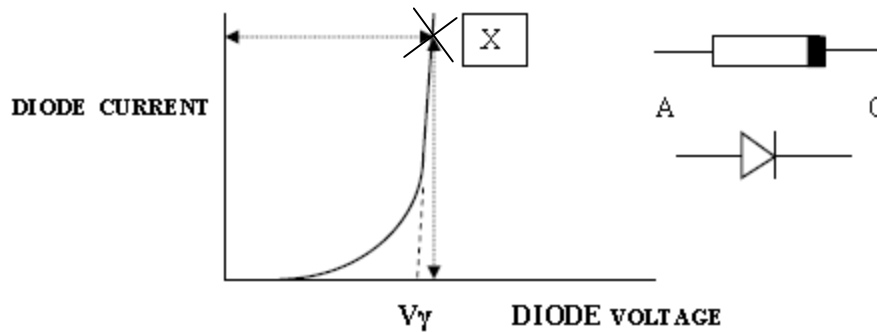
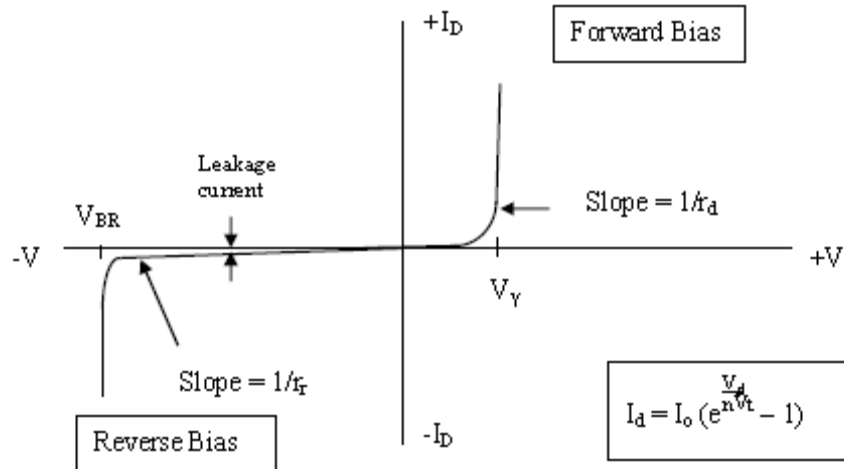

Figure 1.3: Diode forward I-V characteristic showing the definition of  $V_\gamma$
Figure 1.4: Forward and reverse diode I-V characteristics
A sketch of a diode characteristic, as it would be measured on a curve tracer, is shown in Figure 1.3. The curve tracer only measures the forward I-V or the reverse I-V characteristic in any one sweep. The characteristics shown in Figure 1.4 are the combination of the forward and reverse characteristics. Appreciable conduction occurs from around 0.4V to 0.7V for silicon and from around 0.2V to 0.4V for germanium at room temperature. The value of  $V_\gamma$  is a function of the current at which  $V_\gamma$  is measured. This point is discussed below and is one of the concepts you should master from this experiment. If the applied voltage exceeds  $V_\gamma$ , the diode current increases rapidly.
The complete diode characteristic is shown in Figure 1.4, piecing together the forward-biased data and the reverse-biased data. Note that the scales of +V and -V may differ by a factor of 100, and while +I may be mA or A, -I is likely to be  $\mu$ A or nA.
The **reverse resistance,  $r_r$** , is given by the reciprocal of the slope of the reverse characteristic, prior to breakdown (see Figure 1.4).
- Determine the slope from the linear plot of the forward I-V characteristic as a function of the diode current, as shown in Figure 1.4, using the data previously taken in Table 1.1. Note that the inverse of the slope, or  $r_d$ , you measure is a function of where you choose the diode current. Obtain at least eight (8) slope data points.